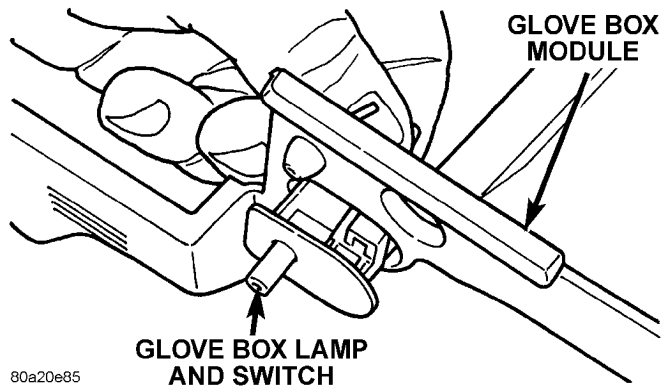

Fig. 13 Glove Box Lamp and Switch Remove/Install
(1) Remove the glove box module from the instrument panel. See Glove Box Module in this group for the procedures.
(2) From the back side of the glove box module, squeeze the retaining tabs on the glove box lamp and switch housing together and push the unit out through the mounting hole towards the front of the module (Fig. 13).